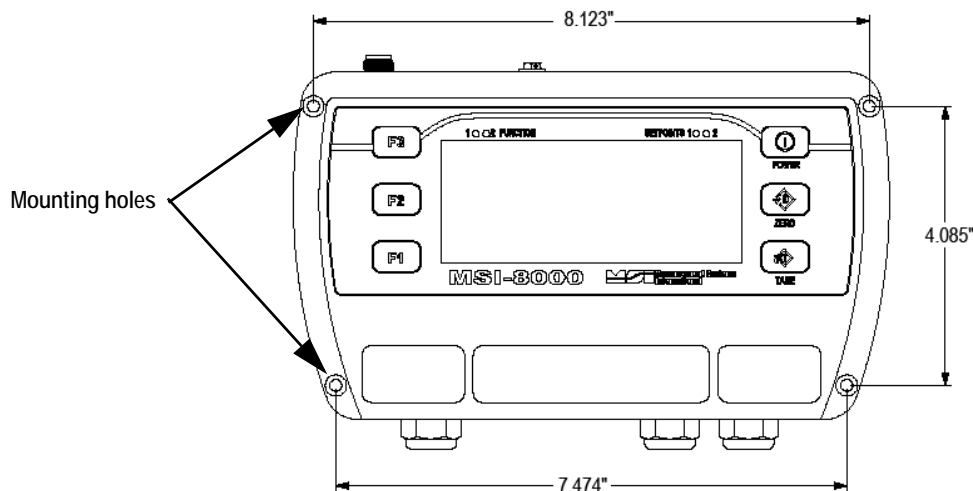

Figure 3-3. Mounting Hole Dimensions
2. Mark the hole location. This can also be done by measuring according to the dimensions in Figure 3-3.